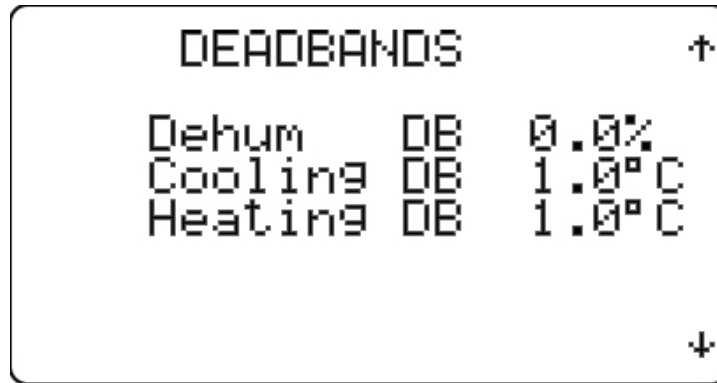

Figure 44
4.3.4.2 Tuning - Dead Bands (Figure 44)
Selecting TUNING from the SERVICE MENU displays the DEADBANDS screen, (Figure 44). The defaults settings for the deadbands can be modified on this screen. The Heating deadband value is subtracted from the Zone Temperature Setpoint from Section 2.2. This value is the heating set point that enables the aux heating output. It is also the heating set point for the Air Heating PID loop. The Cooling Deadband value is added to the Zone Temperature Setpoint. This value is the cooling set point. When the zone temperature exceeds this value, the refrigeration system is required to be used for zone cooling. The Dehum Deadband value is added to the Zone Relative Humidity Setpoint. This value is the dehumidification set point. When the zone relative humidity exceeds this value, the refrigeration system is required to be used for zone dehumidification.